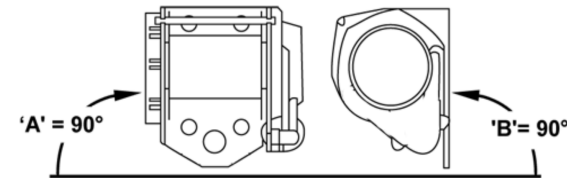

Fig. 1
This seat belt uses a 90° (A)/90° (B) retractor, so the retractor must be installed so the webbing is coming out vertically. An example of a 90°-90° retractor is shown here in Fig. 1.
As shown in Fig. 1., the first angle 'A' is measured from the spring cassette side, starting from the horizontal plane (0°) up, and the second angle 'B' is measured on the mounting side of the retractor starting from the horizontal plane (0°) up. Positioning the retractor within +/- 2° of its operating angle ensures optimum performance.